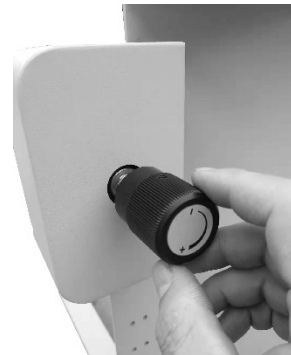

Fig. 13b
5. Adjust the brake tension by turning the ~~adjustin~~ Rear Rewind Clutch Adjustment Knob Fig 13b (see Brake tension adjustment section #15)